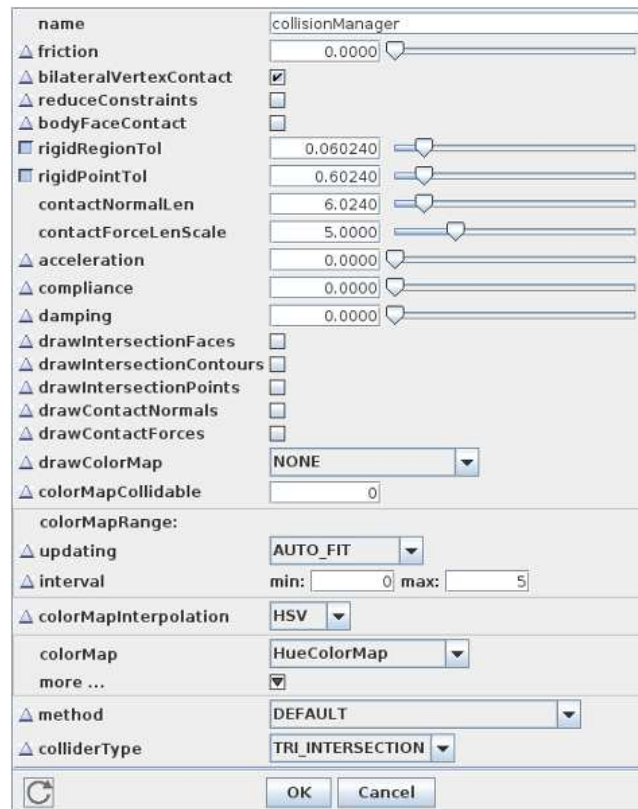

Figure 78: Property panel for the collision manager.
- More detailed collision control can be realized by selecting the `MechModel`’s collision manager in the navigation panel (Section 4.2). Choosing “Edit properties ...” or “Edit render props ...” from the right context menu then allows other properties to be set to control either the collision behavior or the rendering of collisions. A sample property panel is shown in Figure 78, and these properties are described in the “Collision Handling” section of the ArtiSynth Modeling Guide.